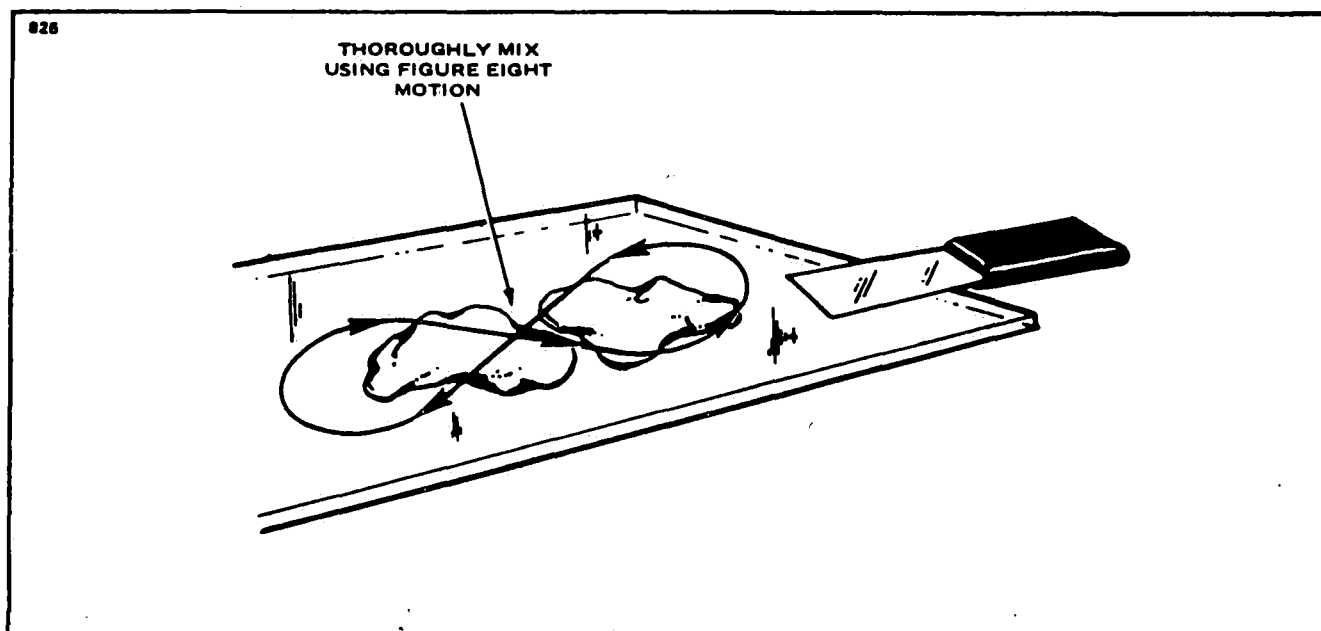

Figure 4-16. Mixing of Epoxy Patching Compound
6. The patching compound is mixed in equal portions on a hard flat surface using a figure eight motion. The damaged area is cleaned with perchlorethylene or VM&P Naphtha prior to applying the compound. (Refer to Figure 4-16.)